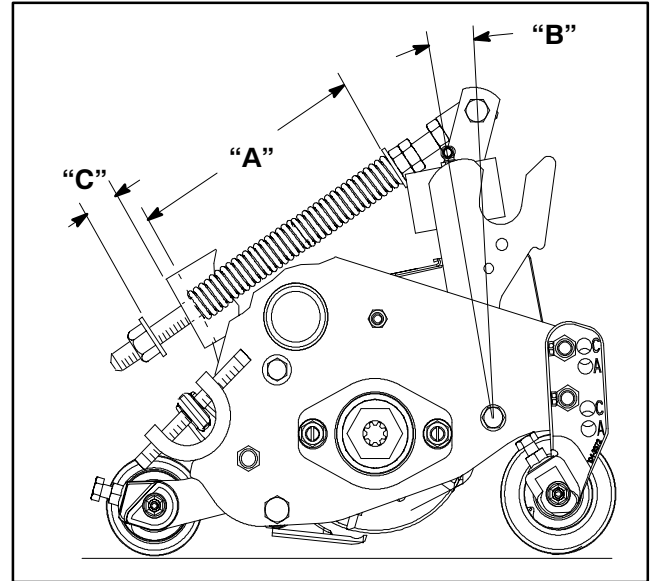

Figure 13
The Turf Compensation Spring (Fig. 13), connecting carrier frame to cutting unit, controls the amount of fore-aft rotation available.
1. Tighten lock nut on rear of spring rod until the gap (C) between rear of spring bracket and front of washer is 1.25" (32 mm) (Fig. 13).
2. Tighten hex nuts on front end of spring rod until the compressed length (A) of spring is 6.25" (328 mm) (Fig. 13).